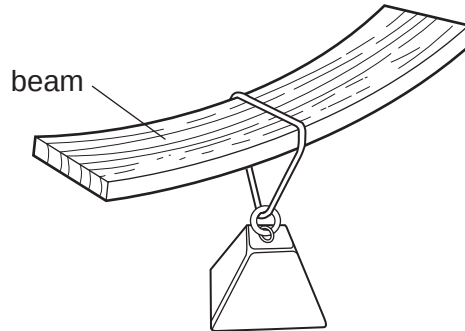

Fig. 1
- 6 Fig. 1 shows a beam bending under load.